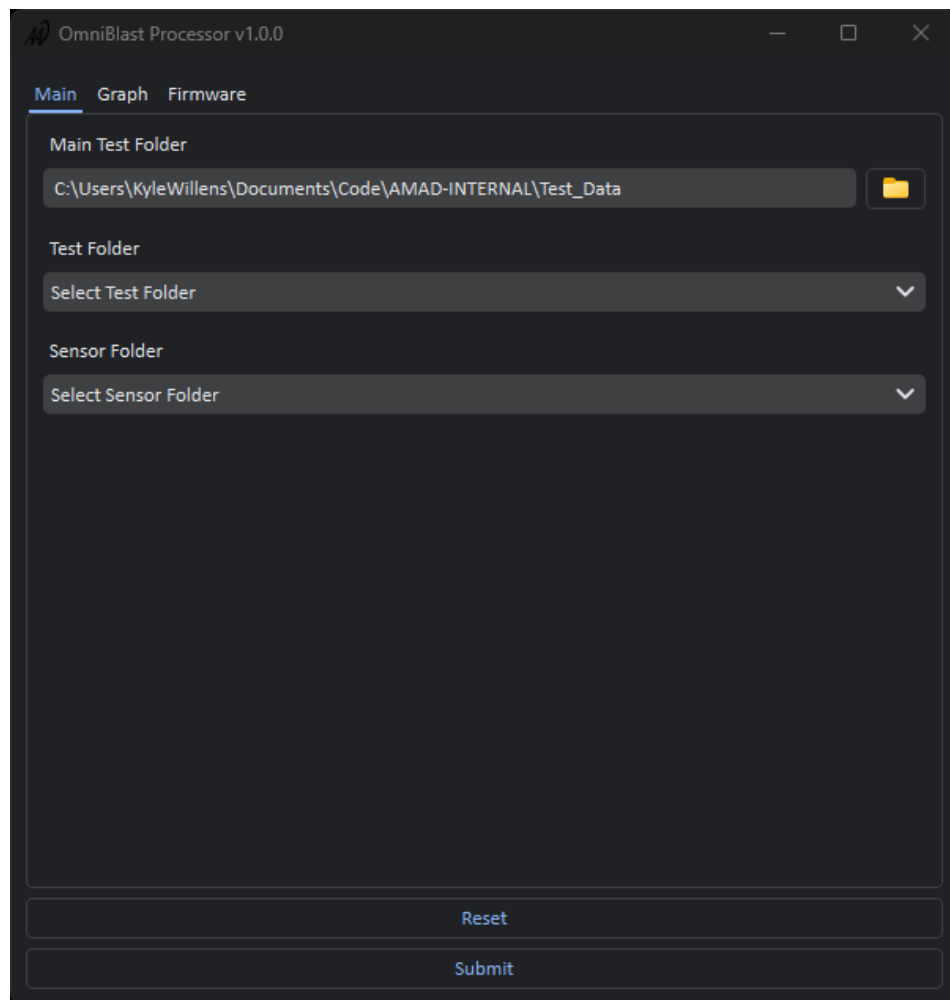

Figure 21. OmniBlast™ Processor main page.
- a) The OmniBlast™ Processor creates a default “Main Test Folder” at the installation location/Test_Data. One can select any other location for “Main Test Folder” by selecting the folder icon or typing into the text box (**Figure 21**).